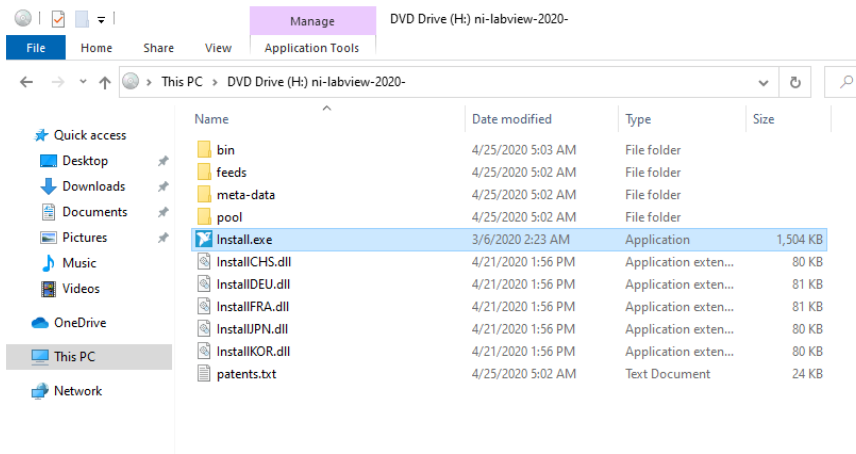

Figure 2-11 List of files in Install folder
- When mounting is finished, a virtual DVD drive will be made and all the files in the ISO file will be displayed. Double click on “Install.exe” and run it (Figure 2-11).